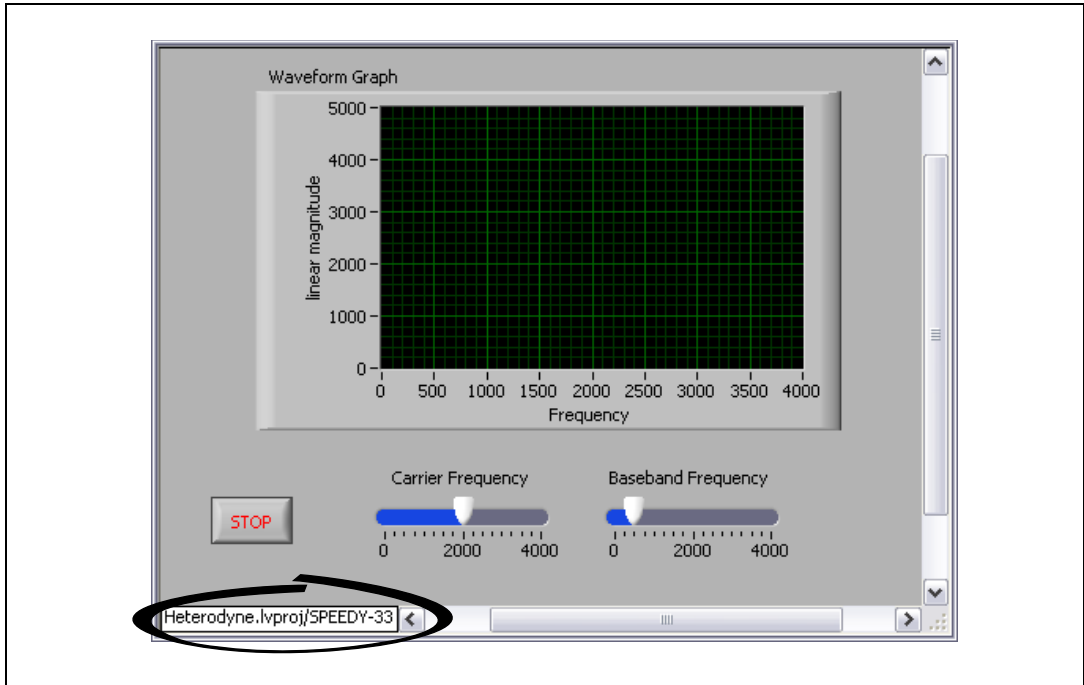

Figure 4. Checking the Application Instance for the Correct Target
2. Make sure the DSP VI targets the correct application instance by looking in the bottom left corner of the front panel or block diagram window, as shown in Figure 4.